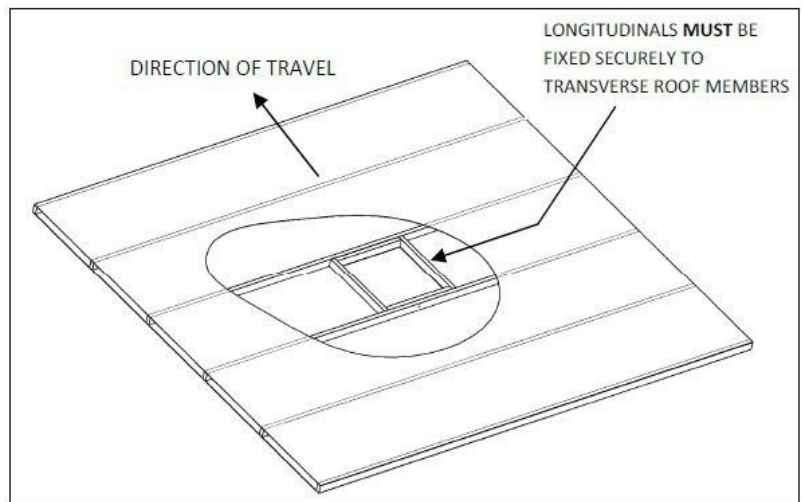

Fig 3: Shows an ideal roof structure with strong longitudinals and a 14' hole boxed
- The square hole in the roof (14" x 14") **MUST** be boxed up with minimum 3/4 inch square timber to provide a structure strong enough to withstand the compression of the installation bolts. This is also to ensure that air is not drawn from the roof cavity (Fig 3 & 4). Remember to leave access for wiring.
- Longitudinals **MUST** be fixed securely to the transverse roof members to transfer load (see Fig 3).
- Press the cable sheath into the integral strain relief slot as shown in **Figure 2**. Wires must not extend beyond the stops as shown in **Figure 3**!
- While holding the strain relief cover, position the housing's hinge posts into the hinge slots and press down until both lock into place as shown in **Figure 3**.